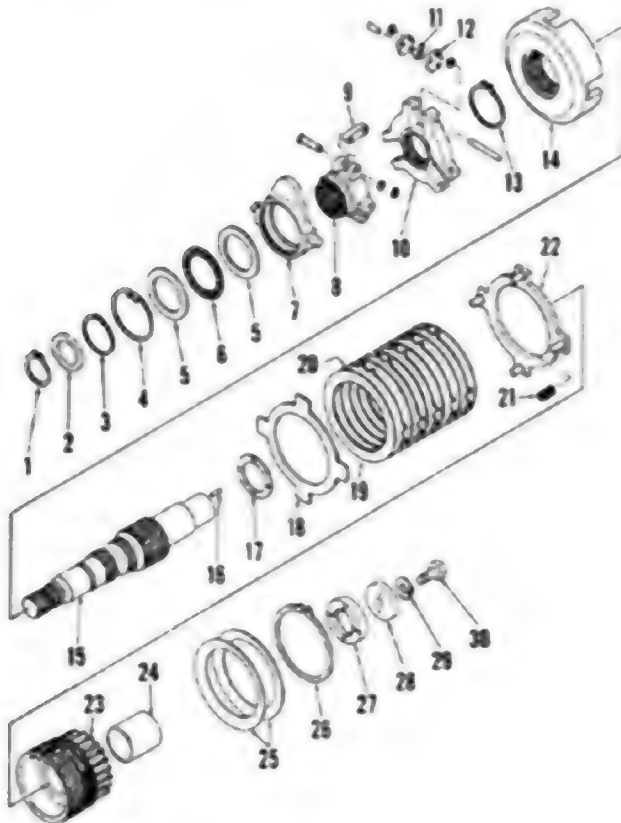

Fig. 19—Exploded view of multi-plate clutch assembly.
**9. R&R AND OVERHAUL.** To remove the front drive clutch assembly, first drain the oil from the range transmission housing. Loosen the locknut and set screw, then separate rear telescoping drive shaft from clutch output shaft. Refer to Fig. 18 and disconnect clevis (30) from arm on shaft (29). Unbolt and remove front cover (1) with gasket (2) and oil seal (3). Drive out roll pins (26), slide shaft out side of housing (20) and remove fork (25). Unbolt and remove side cover (22) with gasket (21) and rear cover (18) with gasket (19). Wire across the tabs of clutch back plate and return plate to hold clutch pack together. Straighten lockwasher (29 - Fig. 19), then remove cap screw (30), lockwasher and plate (28). Drive clutch assembly (5 - Fig. 18) forward out of rear bearing (6) and remove through front opening of housing.
Using a suitable puller, remove front bearing (4). Remove snap ring (1 - Fig. 19) and washer (2). Remove pins and disconnect three actuator links (9) from clutch sleeve (8), then slide clutch sleeve and release bearing assembly from shaft. Remove snap rings (3 and 4) and separate thrust washers (5), thrust bearing (6), bearing retainer (7) and clutch sleeve. Unscrew and remove adjusting ring (10). Remove outer thrust washer
(27), clutch gear and hub (23) and inner thrust washer (17). Remove snap ring (26) and Belleville washers (25) from clutch gear and hub. Remove the clutch and place assembly on a bench. Remove the retaining wires and lift off clutch cup (14). Remove return plate (18), clutch discs (19) and clutch plates (20), then remove return springs (21) from back plate (22).
clutch in engaged (4) position, again measure distance (A). The difference between the two measurements must be within the range of 0.090 to 0.106 inch. If necessary to adjust the clutch, move clutch sleeve (8—Fig. 19) far enough on shaft to clear the splines. Rotate adjusting ring and clutch sleeve assembly clockwise to increase the difference in measurements or counter-clockwise to decrease the difference. One spline tooth movement changes the difference about 0.0025 inch.
Install lever bracket (35-Fig. 18). Wire across tabs of clutch back plate and return plate to keep the clutch plates together, then install clutch assembly in the housing. Remove cap screw (30-Fig. 19), plate (28) and the tubing spacer. Place bearing (6-Fig. 18) on rear of shaft and using plate (28-Fig. 19) and cap screw (30), pull bearing on the shaft and into housing. Remove cap screw, install lockwasher (29), then tighten cap screw to a torque of 65 ft.-lbs. Bend over lock tab on washer. Install clutch fork (25-Fig. 18), insert shaft (29) and secure with roll pins (26). Install new oil seal (3) in front cover (1) so lip will be toward bearing (4). Using new gasket (2), install front cover and tighten cap screws to 33 ft.-lbs. torque. Install rear cover (18) with new gasket (19) and tighten cap screws to 33 ft.-lbs. torque. Connect clevis (30) to arm on clutch shaft (29). Remove wires retaining clutch plates. Using new gasket (21), bolt side cover (22) in place. Connect rear telescoping drive shaft "U" joint to the clutch output shaft and secure with set screw and locknut.